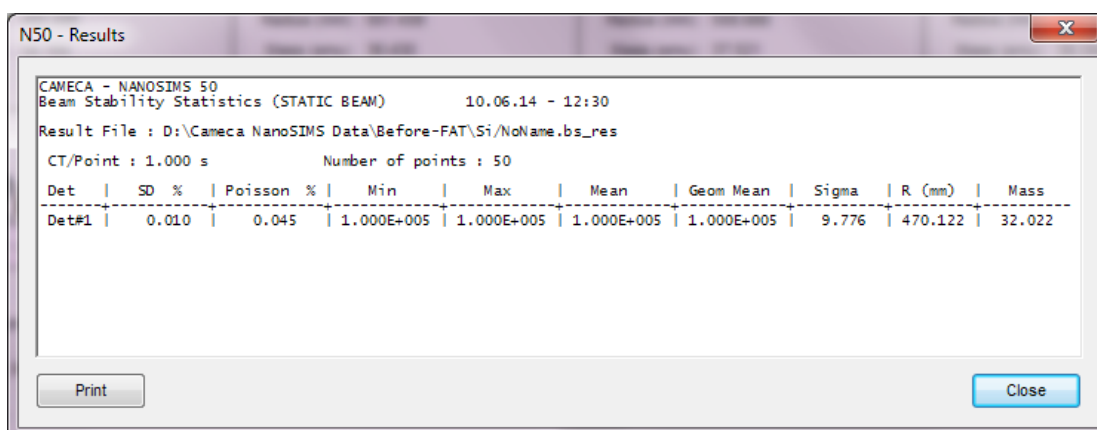

Figure 147: Results window for a beam stability acquisition
- At the end of analysis, some statistical values are computed and displayed in the result window. Click on “Show Results” to open this result window (Figure 147).
For the stability measurement, parameters are printed in the results window (Figure 147):